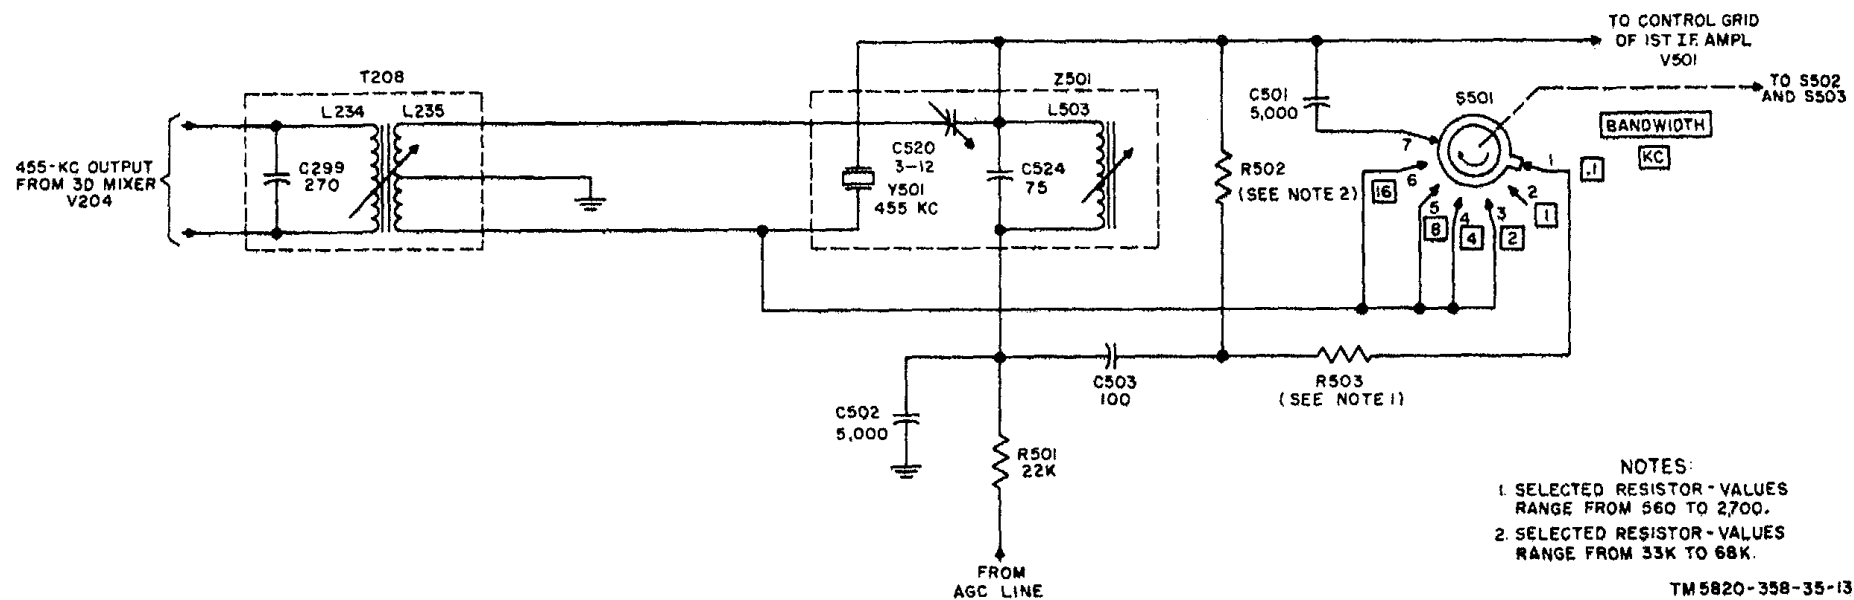

Figure 11. Crystal filter, simplified schematic diagram.
#### 14. Crystal Filter (fig. 11)
a. The control grid of V501 is returned to the agc line through the crystal filter circuit (fig. 11). The cathode circuit returns to ground through cathode biasing resistor R504, if. choke coil L501, and RF GAIN control R103. Capacitors C505 and C504 bypass if. signals to ground. The screen grid is connected to the junction of R505 and R506, part of a voltage-divider network, consisting of R506, R505, and the cathode ground return circuit. Capacitor C506 bypasses the screen grid. Plate voltage is obtained through rf choke coil L505 and the decoupling network consisting of R508 and C511. Voltage for the plate and screen circuits is supplied by the switched rf-if. B+ line.